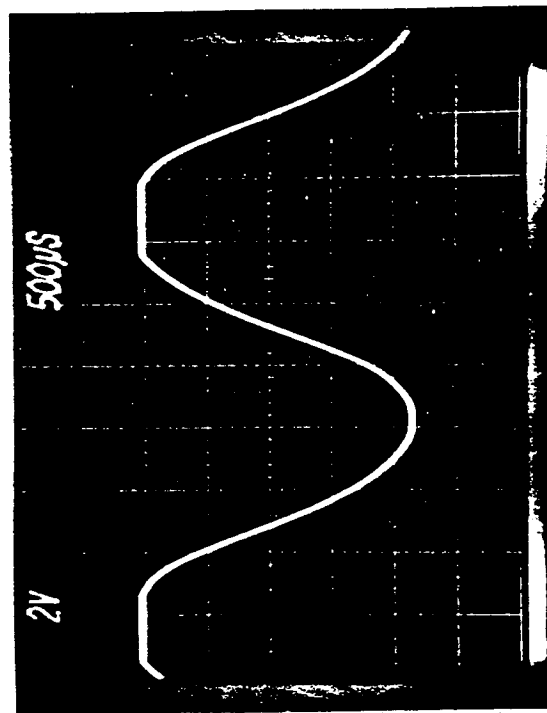

Figure 5-12
6. Check the signal in pin 7 of U2; it should be approximately as shown in Figure 5-12.